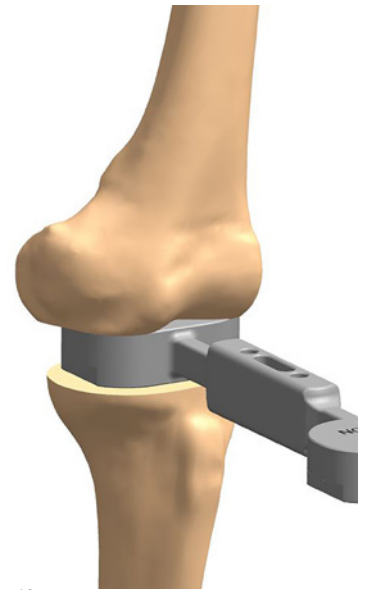

Figure 18
1. The 10mm end of the Extension Spacer Block should easily insert into the extension gap. (Figure 18).